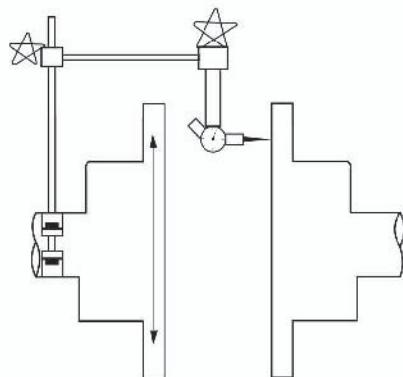

Fig. 1
2. Angular misalignment(Fig.1)